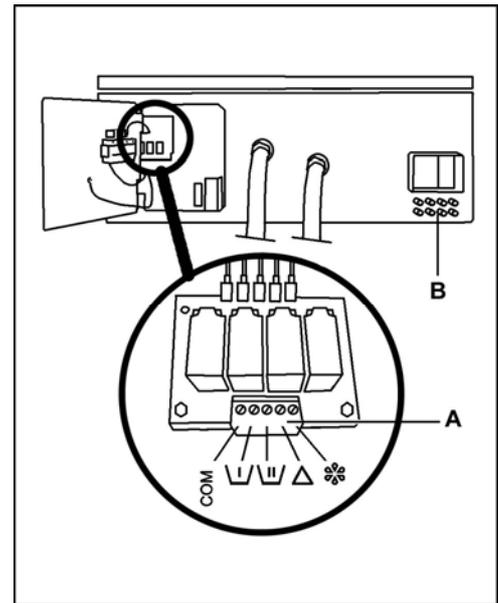

fig. 12
Connection of the dispenser equipment to the washer (*fig. 12*).
- Connect the hoses to the nipples **B** on the manifold (*fig. 12*).